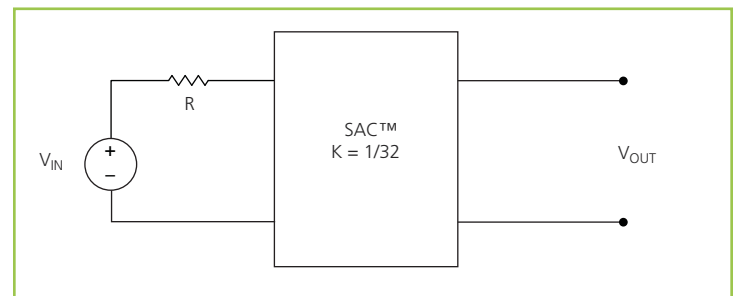

Figure 18 — $K = 1/32$ Sine Amplitude Converter™ with series input resistor
$R_{OUT} = 0 \Omega$ and $I_Q = 0 A$, Eq. (3) now becomes Eq. (1) and is essentially load independent. A resistor R is now placed in series with V_{IN} as shown in Figure 18.
Assuming that $R = 1\ \Omega$, the effective R as seen from the secondary side is $0.98\ m\Omega$, with $K = 1/32$ as shown in Figure 18.